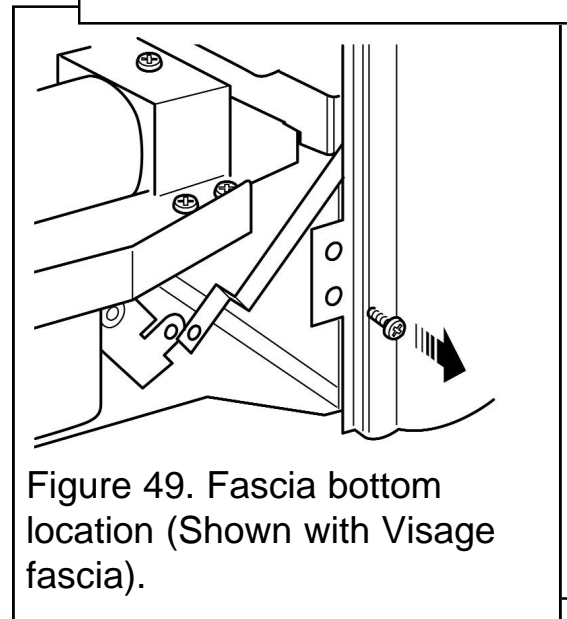

Figure 49. Fascia bottom location (Shown with Visage fascia).
3. Remove the two screws securing the bottom of the fascia to the sides of the convection box (See figure 49).